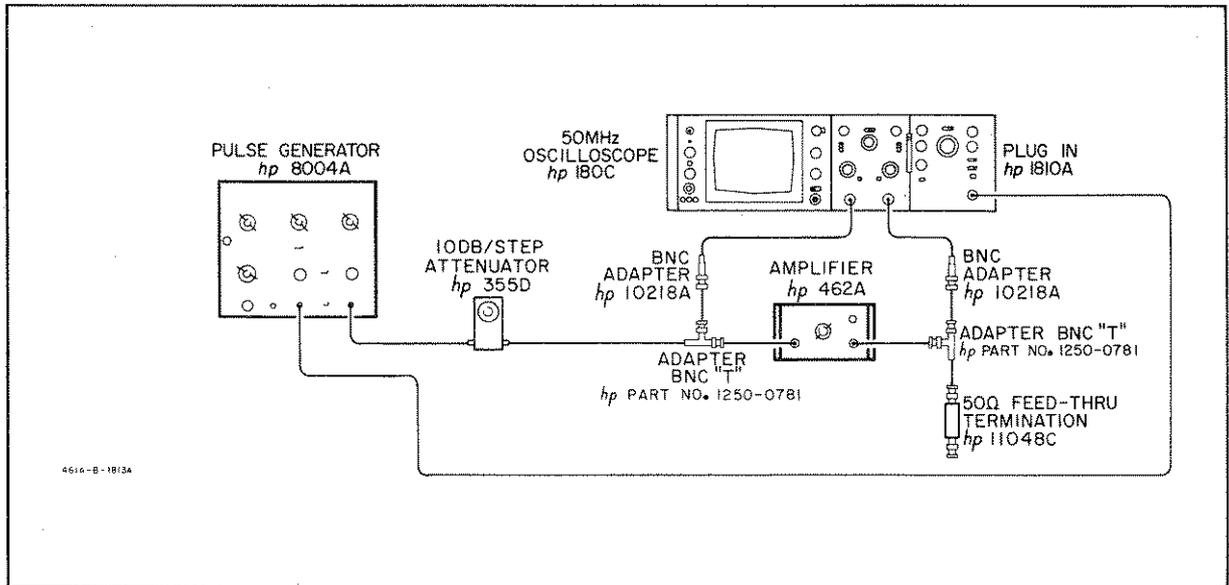

Figure 5-5. Pulse Delay Check Setup
- a. Connect the 462A as shown in Figure 5-5.
- With the 462A connected as in Figure 5-5, channel "B", increase the amplitude of the pulse generator until a 1 volt peak-to-peak pulse is observed on the oscilloscope. This verifies the maximum output of the 462A Pulse Amplifier.